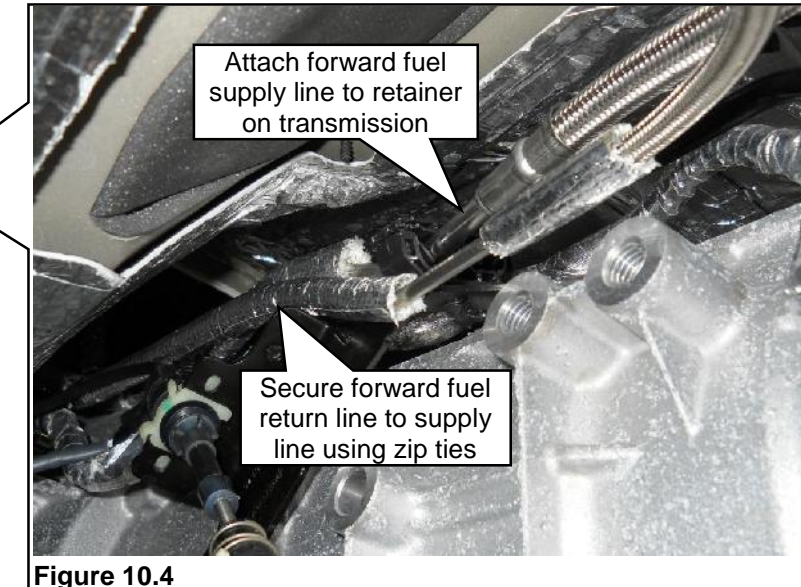

Figure 10.4
3. Run the fuel lines next to the transmission. **Figure 13.3.** Use zip ties as needed. The forward fuel supply line clips into the retainer. **Figure 10.4.**